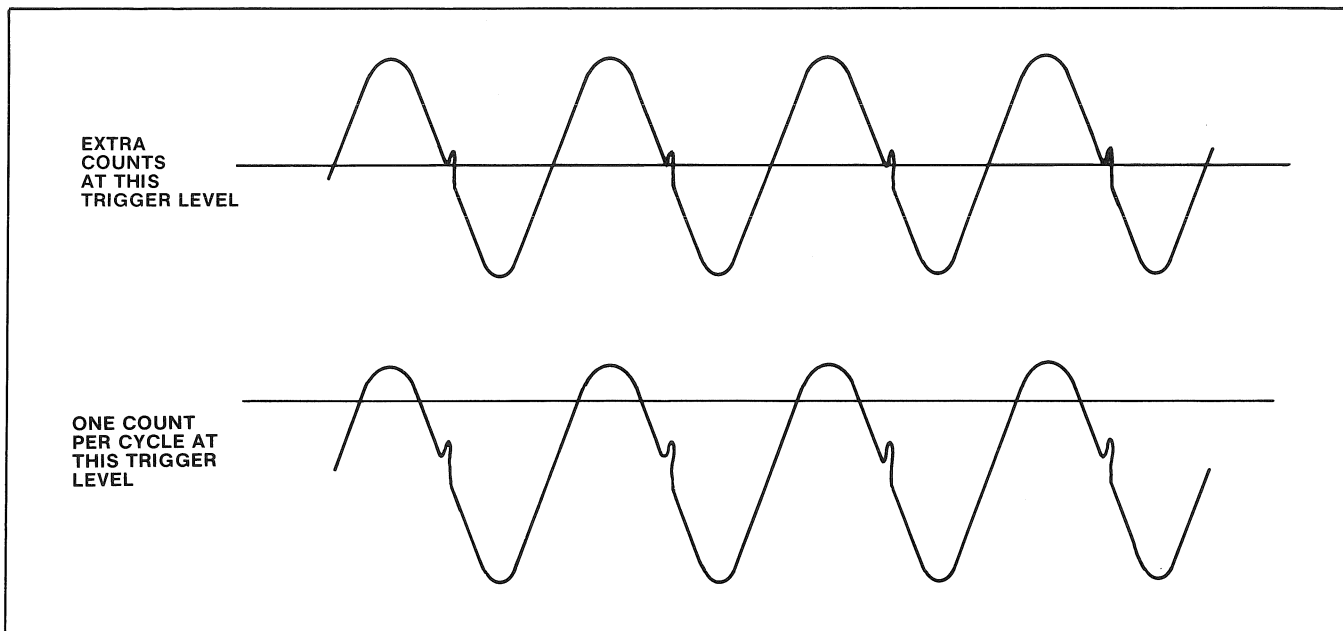
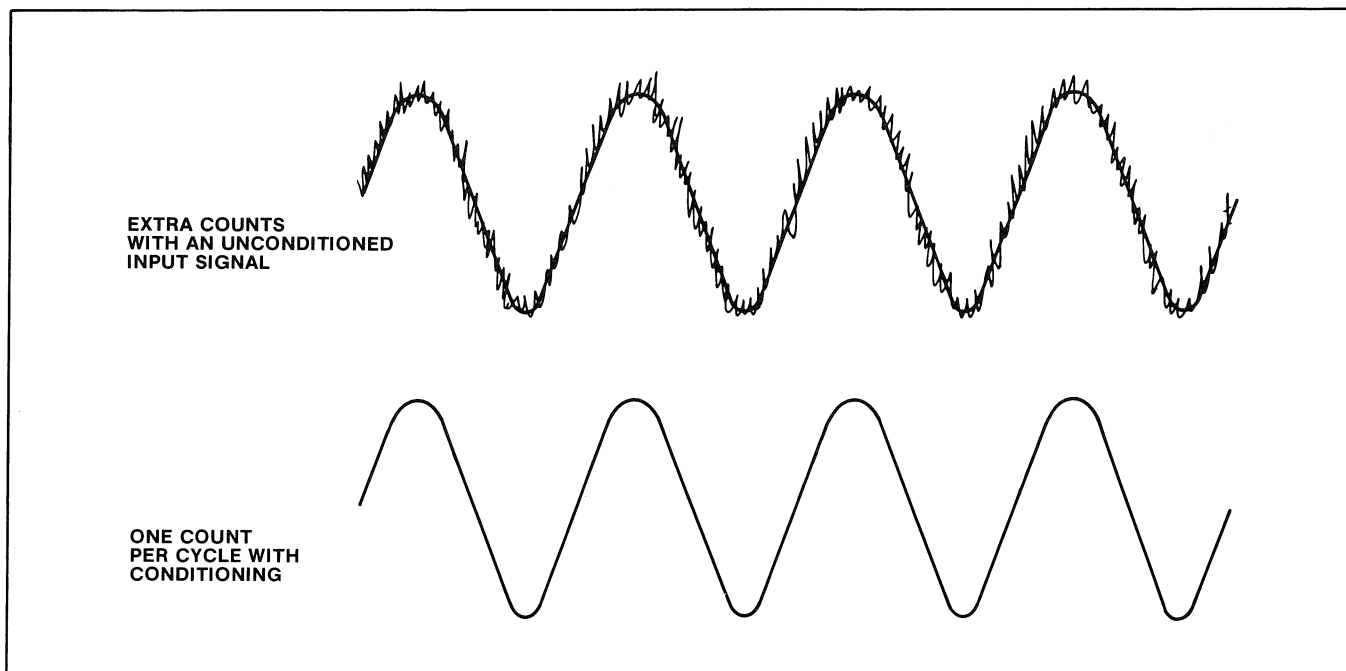
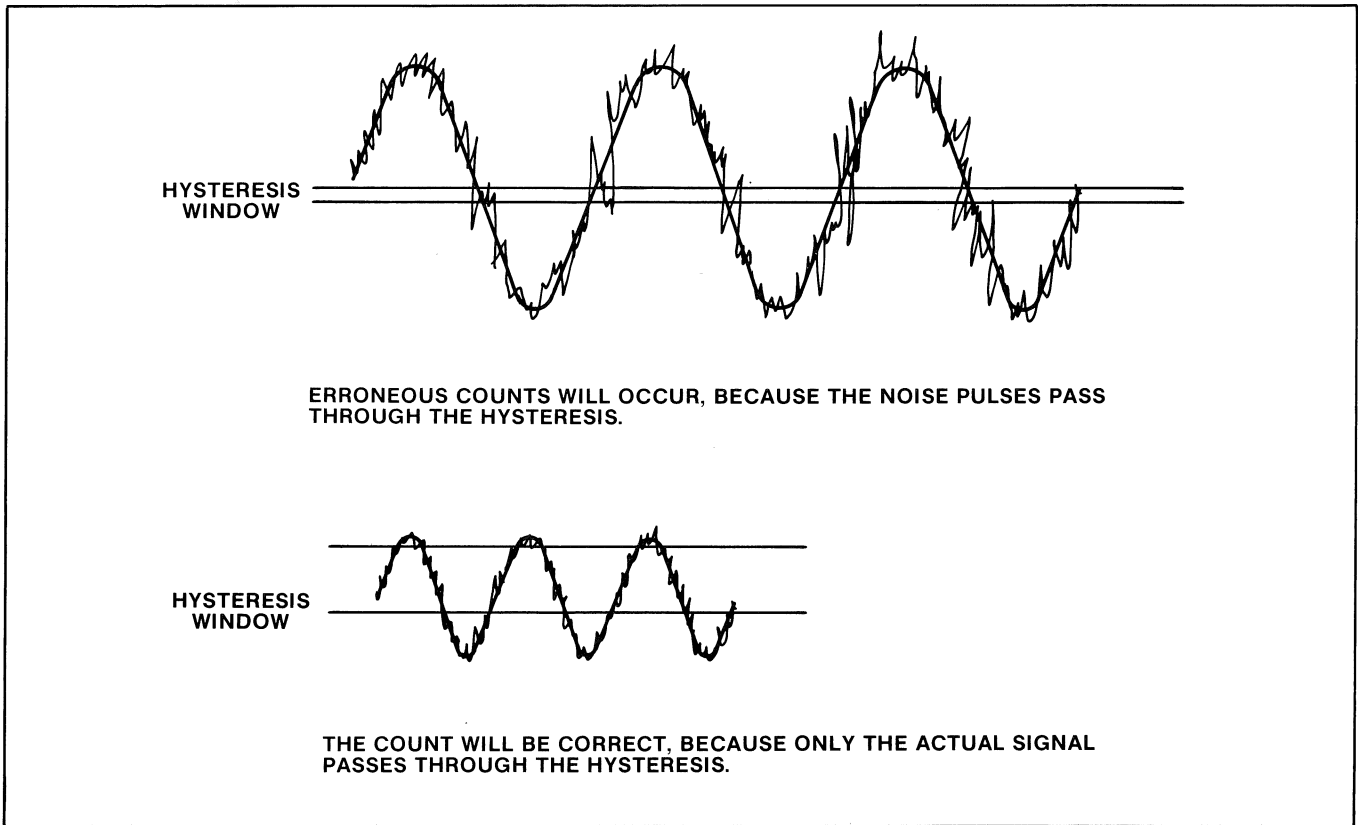

Figure 1-12. Example of noise reduction achieved by adjusting the trigger level.
Figure 1-13. Example of noise reduction by conditioning the input signal.
Figure 1-14. Example of noise reduction through signal attenuation.
Noise on the input signal may be counted as signal transitions by the counter, resulting in an incorrect count. This problem may be corrected in one of three ways: (1) The trigger slope or level can be adjusted to trigger the counter on a noise-free portion of the signal as shown in Figure 1-12. (2) The input signal can be externally conditioned to attenuate the noise (e.g., with filters or with an oscilloscope vertical preamplifier with bandwidth limiting). Refer to Figure 1-13. (3) The trigger sensitivity control can be used to attenuate both the input signal and the associated noise so that only the signal will pass through the hysteresis window. See Figure 1-14.